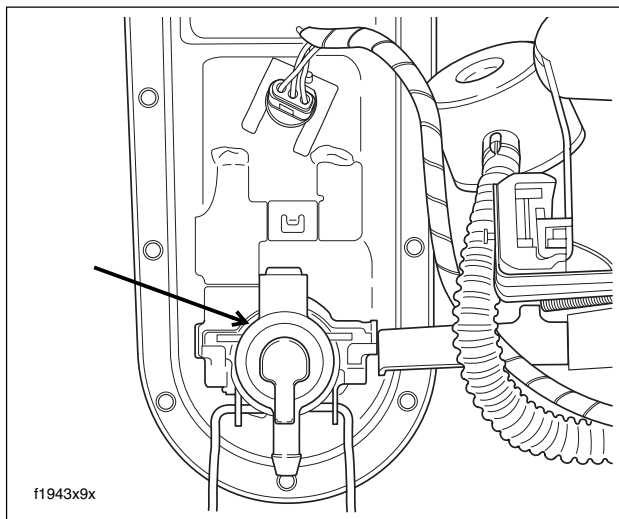

Figure 9-18. Remove Fuel Pressure Regulator (FLHR/C/S/I)
3. Slide fuel pressure regulator assembly forward to free arms from catches on canopy weldment. See Figure 9-18.
3. Fit fuel pressure regulator assembly into canopy weldment engaging arms in catches. See Figure 9-18.